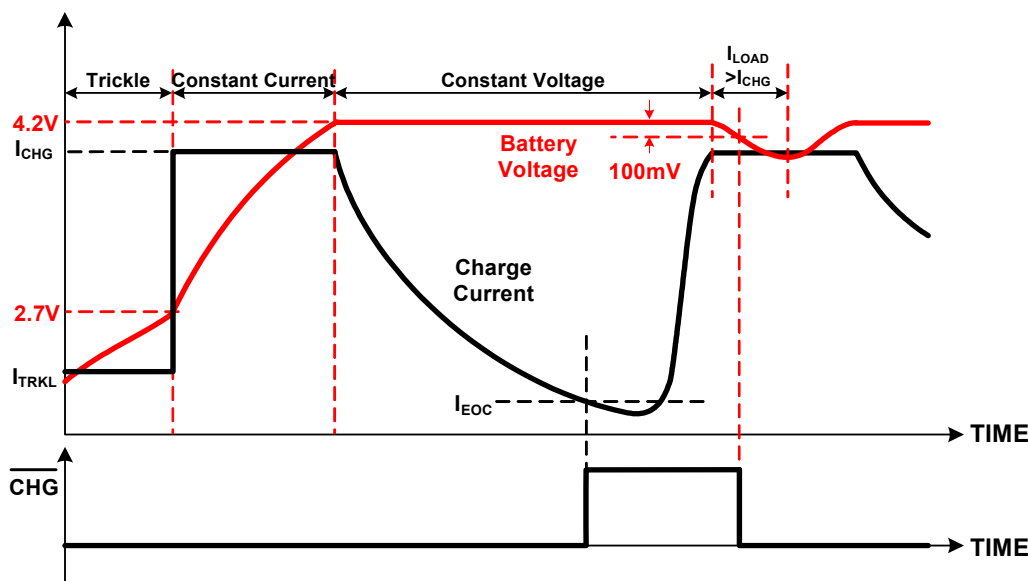

Figure 27. Charge Profile
The 34675 uses the standard charge profile with trickle, constant-current (CC), and constant-voltage (CV) charge modes, as shown in Figure 27. Both the CC and the CV charge modes are also called fast-charge mode. When the input voltage rises above an internal power-on-reset threshold, the  $\overline{\text{PPR}}$  pin outputs a low voltage to indicate the power-supply presence. The charger starts with the trickle-charge mode until the battery voltage is above 2.7V. The  $\overline{\text{CHG}}$  pin outputs logic low voltage at the beginning of the trickle-charge mode. If the battery voltage is unable to rise due to a battery failure, charging will remain in the trickle-charge mode. When the battery voltage reaches the 2.7V threshold, the 34675 softly changes to the CC mode. The soft transition minimizes the input-voltage drop and reduces the requirement of the input decoupling capacitance. When the battery voltage reaches 4.2V, the 34675 enters the CV mode and regulates the output voltage at 4.2V. The charge current decreases gradually in the CV mode. When the current drops to the EOC current threshold, the 34675 outputs logic high level at the  $\overline{\text{CHG}}$  pin to indicate that the charging is completed.